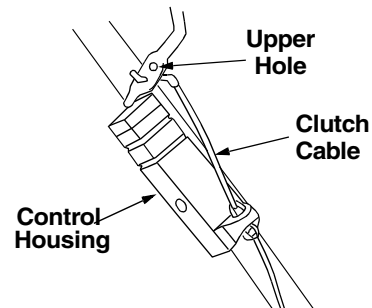

Figure 10
- The upper hole in the control handle provides adjustment for belt tension. To adjust, disconnect the "Z" end of control cable from the bottom hole in the control handle. See Figure 10. Hook the cable into the upper hole in control handle as shown.